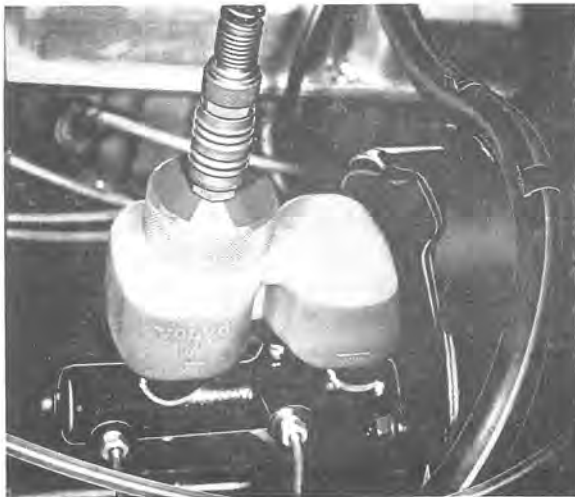

Fig. 5-63. Connecting bleeder unit
4. Fit on the container a cap specially used when bleeding, see Fig. 5-63. Connect the bleeder unit according to the instructions of the manufacturer. The working pressure is 2 kp/cm² (28.4 p.s.i.). The type of bleeder unit which may be used is shown in Fig. 5-5.